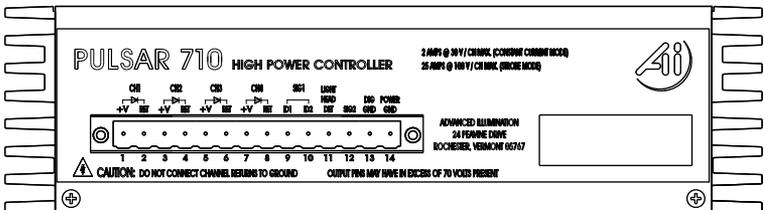

Figure 2: Pulsar 710 rear panel
3.1.2 Light Head: Figure 2 shows the rear panel of the Pulsar 710 and, in particular, the location of the 14 pin output connector.